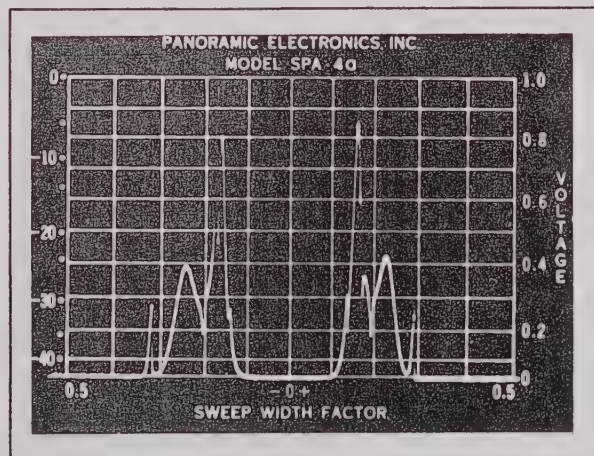

Figure V-8a. CRT Screen Presentations (6.5 MC I-F Amplifier Detuned)
1. If the stages of the 6.5 mc i-f amplifier are so detuned that no signal or noise appears on the screen, make sure that all the tubes are in good condition. Turn the IF GAIN pot fully clockwise and feed a very strong 6.5 mc signal into J1101. The baseline of the CRT screen should rise to some degree. Proceed to step (a) below and tune for more gain. Then reconnect J1101 to a swept 6.5 mc signal from an FM generator. If the display shows a presentation similar to that in Fig. V-8a, read through all the instructions in the following paragraphs pertaining to 6.5 mc i-f alignment. Use enough of this information for a true signal given in par. f.3. a & b to obtain the pip shape required for continuing the alignment. This requires a working 75 mc i-f amplifier and a 160 mc narrow band i-f amplifier.
(a) When the transformers are acutely detuned, a presentation such as shown in Fig. V-8a will appear. In such a case the true signal is the one on the RIGHT of the r-f signal pips while the true marker signal is the one on the LEFT of the marker pips. The r-f signal and marker pip can easily be identified by changing the input frequency of either one of them. The signal that moves across the screen is the one being tuned.